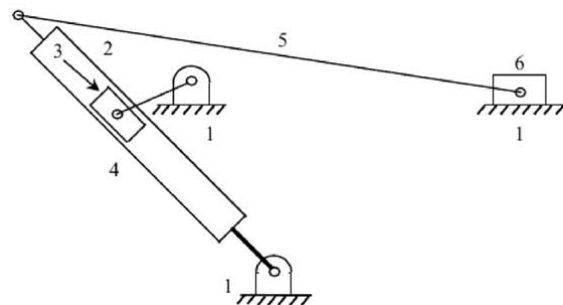

Figure 5.3-1: Slotted link mechanism: apparatus and schematic.
- Lab model slotted-link mechanism (Figure 5.3-1). This is an isomer of Stephenson's six-bar isomer.